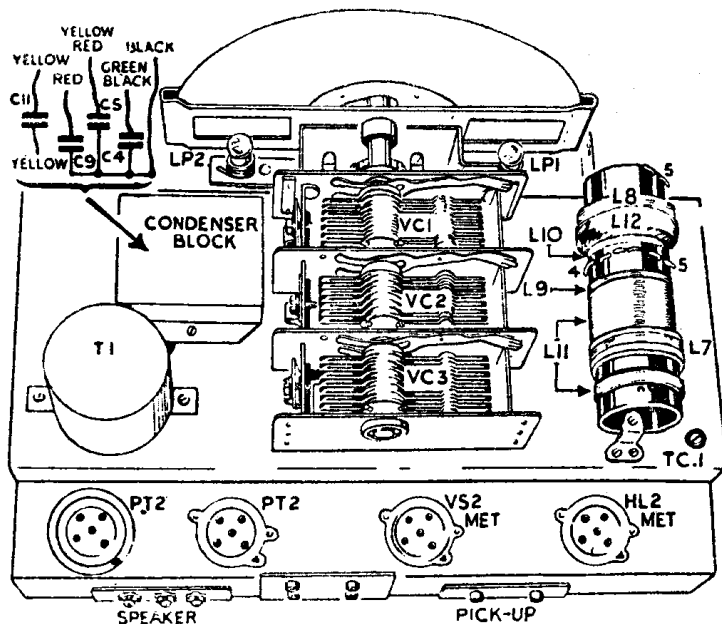

Fig. 2.
A faulty VS 2 or a faulty aerial or earth system will result in weak but undistorted signals. If when aerial is connected to the fixed vanes of VC 3 (see Fig. 2) the strength is commensurate with that of a 2-valve receiver, the trouble can be definitely associated with the VS 2 valve, or the components preceding L 9 and L 10 in the circuit diagram.
**COMPONENT TESTS. (See Figs. 2 and 3.)**